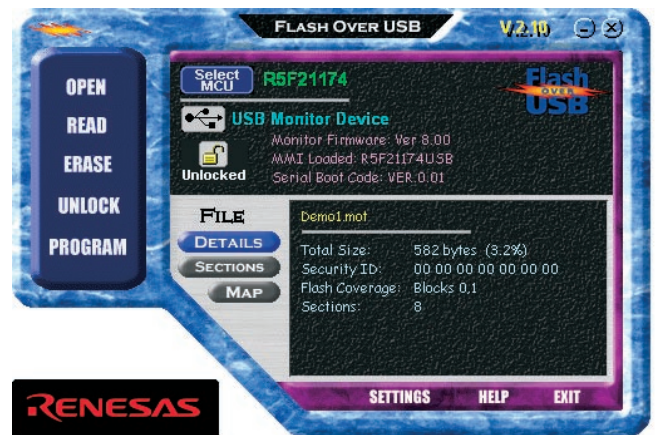

Figure 5. Flash-over-USB Programmer Main Menu after loading the Demo Code
- j) When the FoUSB dialog box “Program completed Successfully” appears, click <OK> (Figure 5).